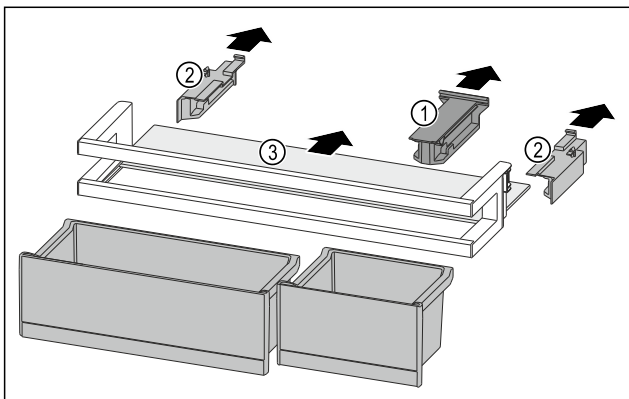

Fig. 127
- ▶ Pull off the holding part Fig. 127 (1).
- ▶ Pull off the side parts Fig. 127 (2).
- ▶ Remove the shelf Fig. 127 (3).